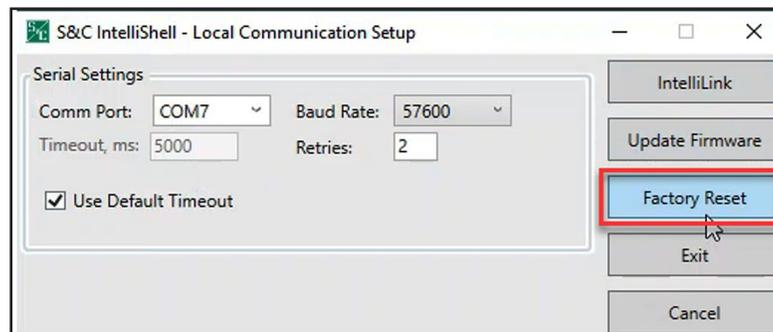

Figure 59. The Factory Reset button.
STEP 3. Click on the **Factory Reset** option to launch the **Factory Reset** procedure. See Figure 59.